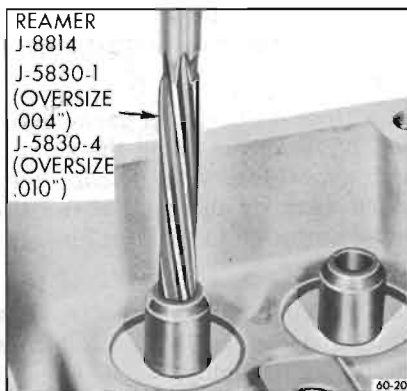

Figure 60-20—Reaming Valve Guide
8. If a V-6 valve stem has excessive clearance in its guide, the guide must be reamed .004" oversize, using Reamer J-5830-1. See Figure 60-20. .004" oversize valves are available through the Parts Department.